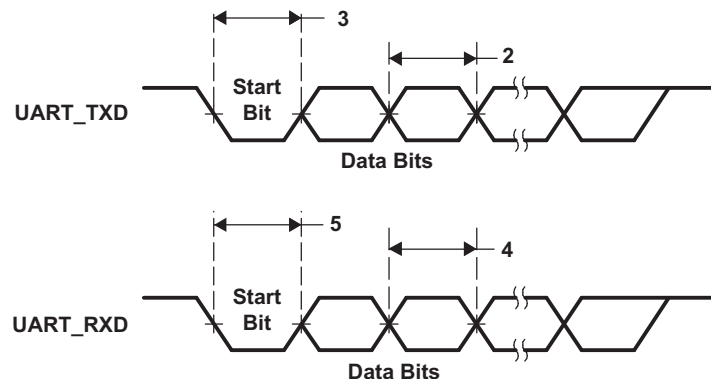

Figure 6-28. UART Transmit/Receive Timing
Table 6-29. Timing Requirements for UART Receive⁽¹⁾⁽²⁾ (see Figure 6-28)
(1) U = UART baud time = 1/programmed baud rate.
(2) These parametric values are measured at DV_{DDIO} = 3.3 V, 2.75 V, and 2.5 V
Table 6-30. Switching Characteristics Over Recommended Operating Conditions for UART Transmit^{(1) (2)} (see Figure 6-28)